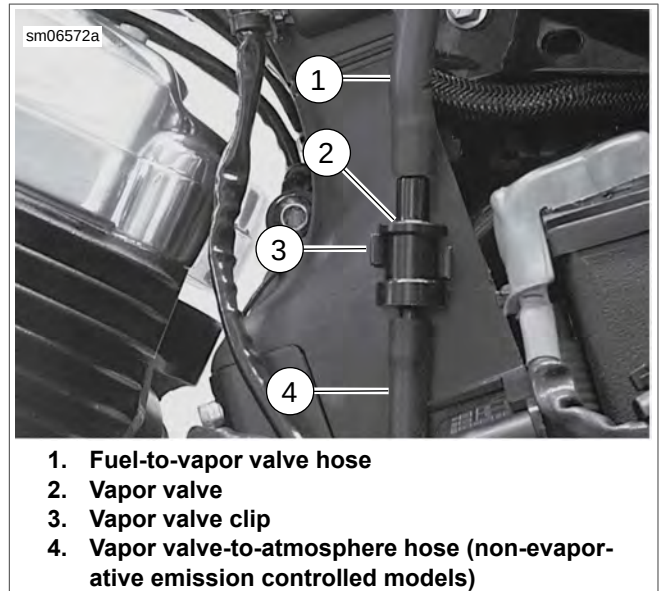

Figure 4-11. Vapor Valve
See Figure 4-11. The fuel tank is vented through a standpipe (vent tube) within the tank. A hose (1) at the base of the fuel tank is connected to the standpipe.